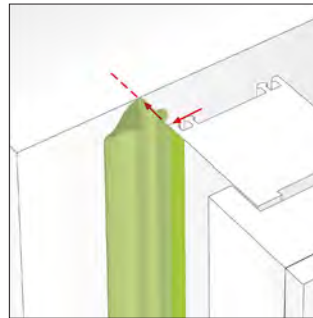

Fig. 1
- Bonding in 'E' format (Fig. 1):- peel off the protective split liner of the self-adhesive on the side of the membrane facing the frame, allowing some slack in the membrane retained within the joint.
- Using 'E' format, the window should be installed first. Remove the narrow part of the split liner from the full self-adhesive backing on the reverse (non-printed) face of the membrane and locate the membrane against the internal face of the window with a minimum of 10 mm contact all around (See Fig. 1). It is possible to apply in a continuous length by folding the membrane back on itself at the corners or alternatively, apply four separate strips allowing a 50 mm overlap at each corner and at the start/end sections. Consolidate the bond using a seam roller.